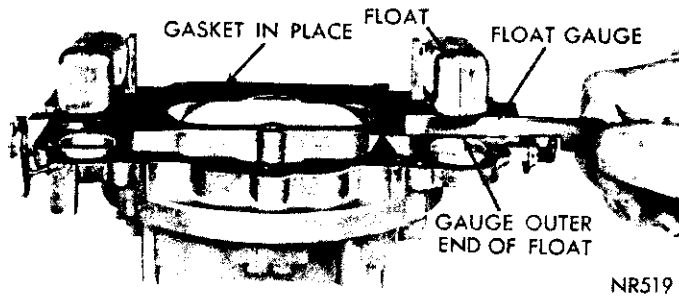

Fig. 10—Checking Float Height
(1) With air horn inverted, air horn gasket in place and float needle seated, slide float gauge (refer to specifications for carburetor being worked on) between top of the float (at outer end) and air horn gasket, (Fig. 10). Float should just touch gauge (T-109-107).
(2) Check other float in same manner. If an adjustment is necessary, bend float arm using Tool T-109-22, until correct clearance has been obtained. After bending arm, recheck the float alignment.